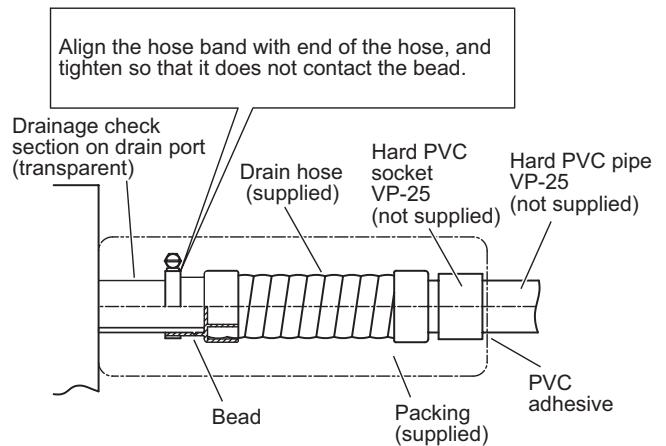

Fig. 2-82
The transparent drain part on the unit allows you to check drainage. (Fig. 2-82)
- Tighten the hose clamps so their locking nuts face upward. (Fig. 2-82)